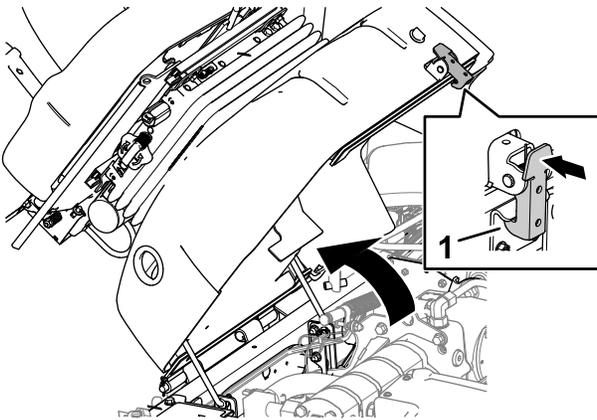

Figure 64
1. Move the seat latch outward (Figure 64).